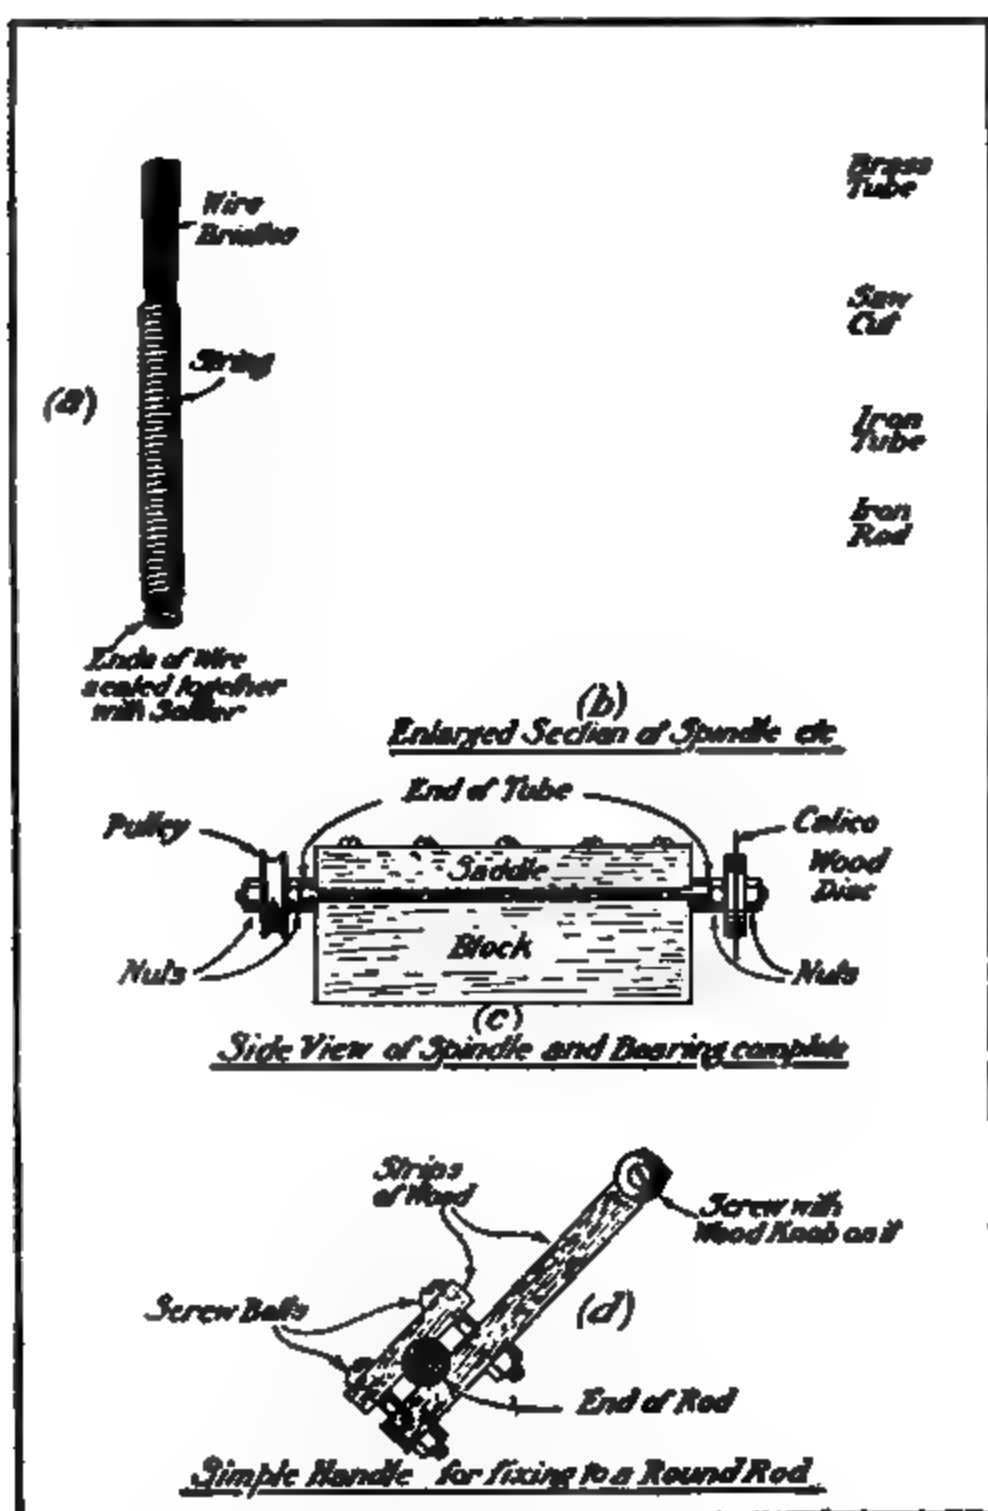

Fig. 62.—Metal-polishing apparatus.
Next, get a block of wood, A, about five and a half inches long, and cut in it a groove in which the brass tube will lie comfortably (Fig. 62, *b*). Out of another piece, B, make a saddle to straddle the tube, so that, when it is screwed down to the block, the tube will be clipped tightly between the two. Slit the tube from end to end with a saw, on one side only, and remove the "burr" on the inside of the cut with a scraper or round file.
*To Polish a Round Rod.*—It is often convenient to polish a round rod by turning it round against the grinding material rather than by applying it to a moving grinding surface. For this purpose get a block of wood and cut a V-shaped groove in it. Then fit on to the end of the rod a handle, which can easily be made of two pieces of wood drawn together by two small screws and nuts. (See Fig. 62, *d*.) A handle of this kind should be made and kept at hand, since it will often come in useful for odd jobs.